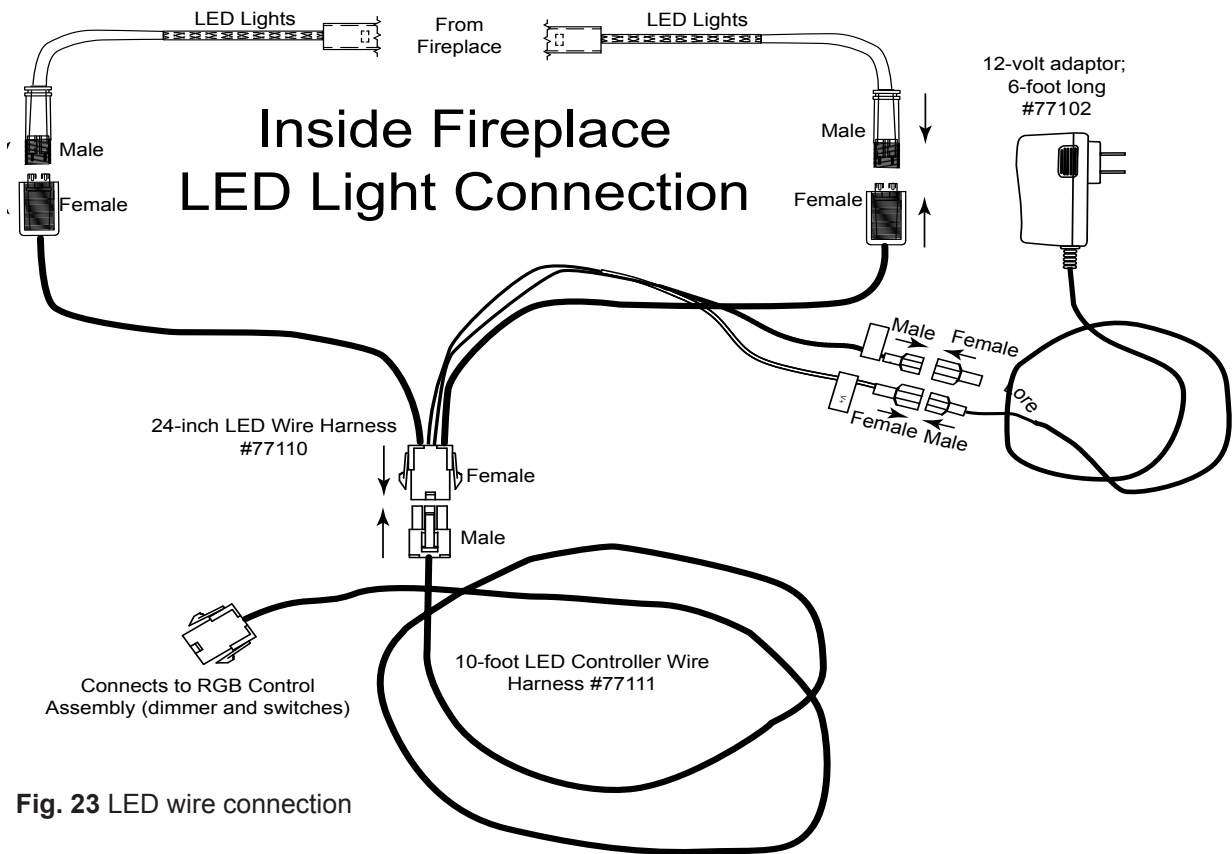

Fig. 23 LED wire connection
Step 8: Using Fig. 23 below, insert the LED channel assembly female connector (protruding through the wire grommets) to the LED male connector 77110. **Note:** The male end of the LED connector will only insert into the female connector in one direction. Once locked in position, screw the threaded cap of the female connector securely over the male connector.